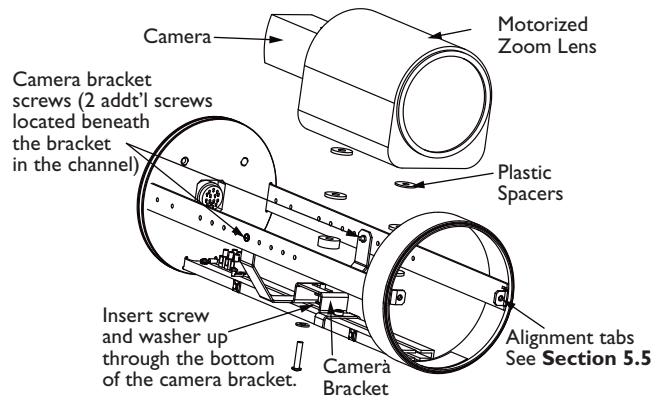

FIGURE 8 HS9396 Camera/Lens installation
2. Determine if the Camera Bracket (see **Figure 8**) needs to be adjusted back or forth on the rails. Remove the four screws described in **Figure 8** to adjust the camera bracket.
4. Determine which 1/4-20 BHCS are required to secure the camera and lens. Insert the camera screw and washer up through the slot in the camera bracket as shown in **Figure 8**. Place the necessary spacers onto the screw and insert a long 5/32-inch Allen wrench into the screw by accessing it from below (between the slot in the rails).
6. Insert the head of the lens screw and washer into the Channel between the cradle rails (see **Figure 8**). Place the appropriate spacers onto the threads of the screw. Use the 5/32-inch Allen wrench to hold the screw flush against the cradle rails. Lower the lens onto the screw and begin to tighten; do not tighten fully. Proceed to **Section 5.3.3** to adjust the camera/lens combination.